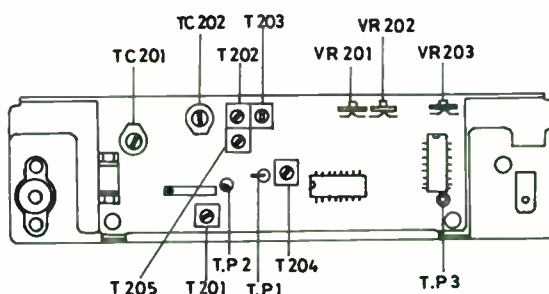

Fig. 3
- (b) Connect FM signal generator and stereo signal modulator as shown on Fig. 3, and set the stereo modulator to 7.5 kHz deviation (10%) for pilot signal (19 kHz) and 67.5 kHz deviation (90%) for L + R main signal, and FM signal generator to 98 MHz, 1 mV, 75 kHz deviation (100%).